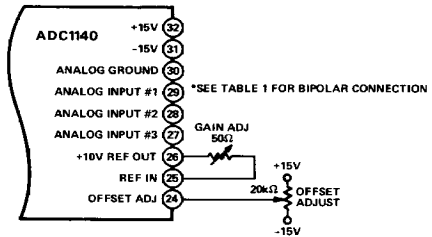

Figure 3. Offset and Gain Calibration
¹ Offset and gain error are adjustable to zero by means of external potentiometers. See Figure 3 for proper connection.
For operation, the only connections to the ADC1140 that are necessary are the power supplies, internal or external reference, input voltage pin programming, convert command and digital output. Refer to Table I for input pin programming and Figure 3 for offset and gain calibration.
*If Internal Reference is used, Pins 25 and 26 must be connected together through a 50Ω potentiometer or 24.9Ω fixed resistor (see Figure 3 and the gain calibration section).
Initial offset and gain errors can be adjusted to zero by potentiometers as shown in Figure 3. Proper offset and gain calibration requires great care and the use of an accurate and stable voltage reference. The voltage standard used as a signal source must be very stable. It should be capable of being set to within 1μV of the desired value at both ends of its range. The potentiometers selected should be of the good quality Cermet type. Multi-turn potentiometers having ten to fifteen turns and 100ppm/°C temperature coefficients will be adequate. The temperature coefficients contributed by these Cermet potentiometers will be less than 0.1ppm/°C.